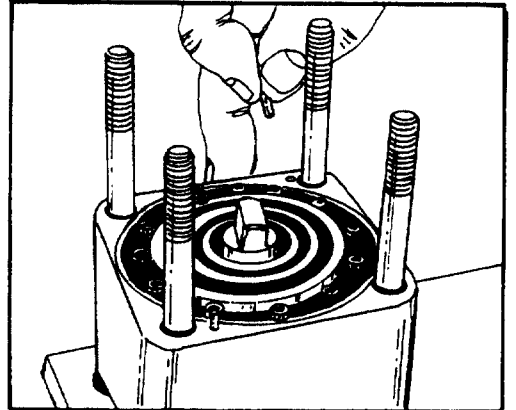

FIGURE 76.
28. Place two alignment pins (11) into the metering ring (17). See figure 76.